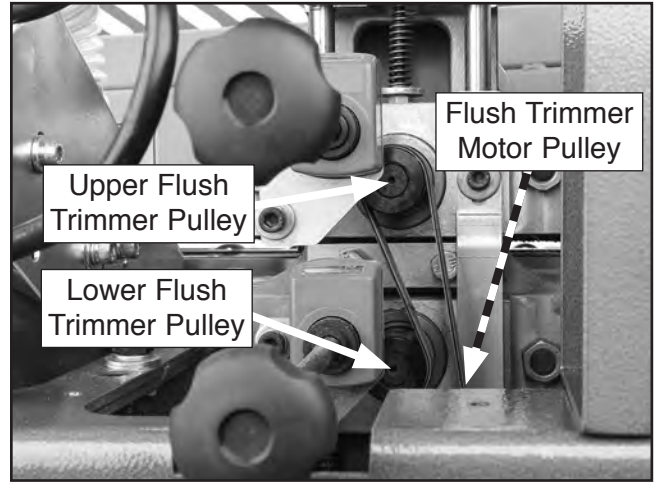

Figure 113. Flush trimmer drive belt properly routed around pulleys.
6. Remove old belt and install a new one, making sure to properly route it around pulleys, as shown in **Figure 113**.